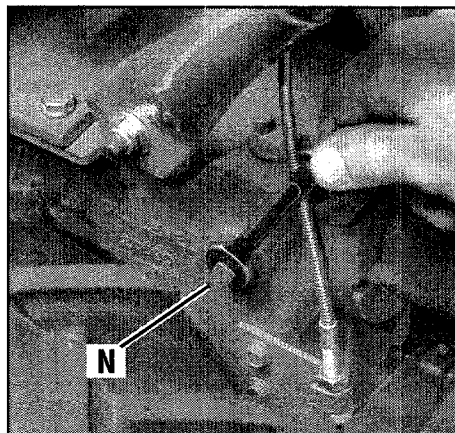

Figure 2-13: Gear oil level check plug.
3. Remove the oil level check plug (N, Figure 2-13) on the left-side of the transmission. (Due to dried paint on the plug threads, it may require some force to remove the plug the first time.) The gear oil level is correct if oil starts to flow out of the hole as the plug is removed. If so, securely reinstall the plug.
oil until it flows from the oil level check hole (N, Figure 2-13). Securely reinstall the oil level check plug (N).